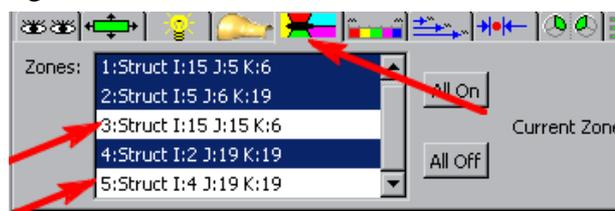
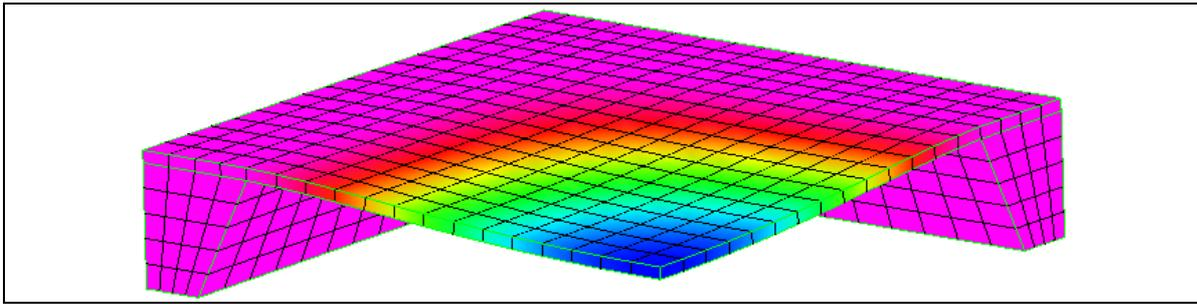

Fig.68. The *Zone Display* tab of the format area – here you can make appropriate regions of the model invisible
Fig.69. The view of the model – air regions disabled
- As we can see, the air areas over and below the membrane cover its view. These areas can become hidden. Select object named *Geom* in the *Objects* window. Under the *Zone Display* tab in the format area select the *Zones* window (see Fig. 68). In this window find both areas of the air (under and over the membrane) in the list and deselect them. After this operation our model looks as in Fig. 69.